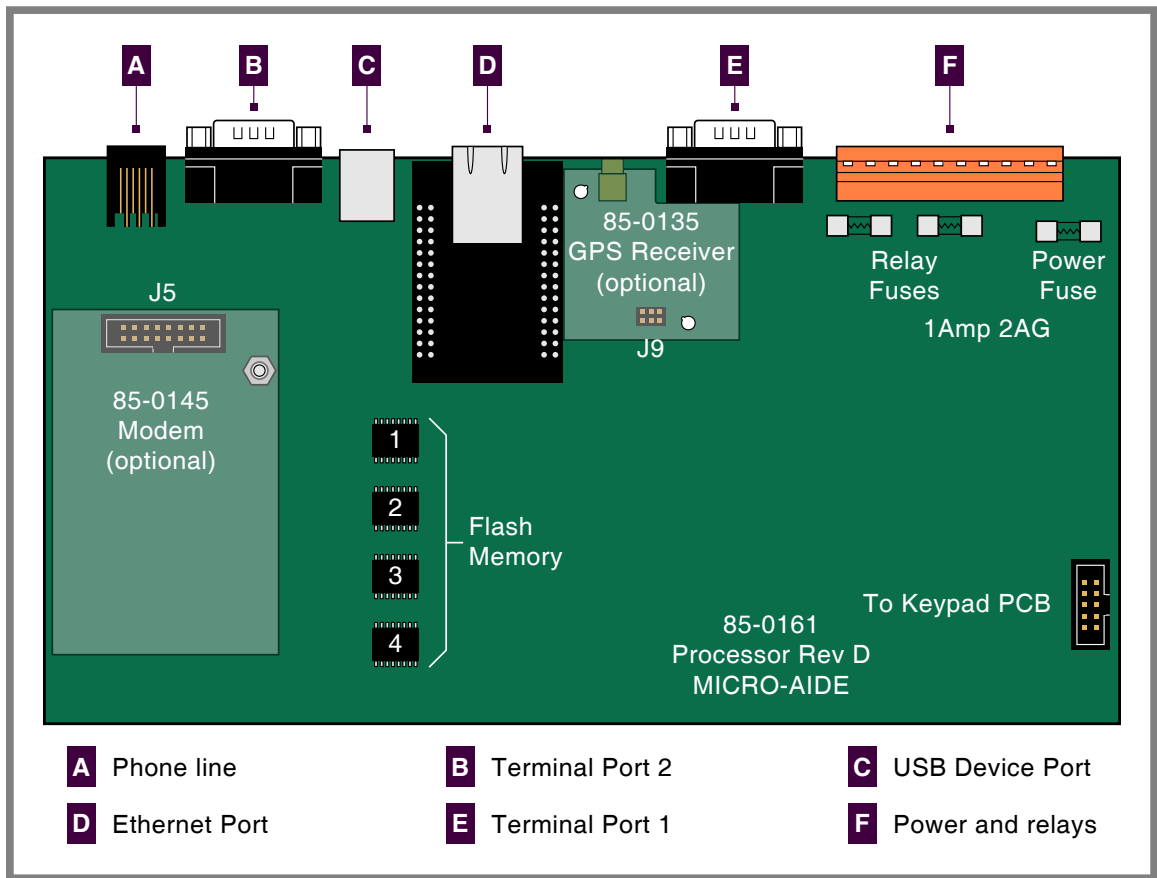

Figure 13: Processor PCB
There are three fuses mounted on the Processor PCB. The fuses are designed to protect the input power source and the contacts of the two output relays. Each are rated at 1 A and conform to the 2AG size standard. Before replacing a fuse the cause of the blown fuse should be ascertained and cleared if possible. The fuses are illustrated in Figure 13 on page 95.
Generally, the GPS Receiver is ordered at the time the Recording System is purchased and is pre-installed at the factory. If the receiver was not previously ordered, it can be installed by the user. To install the receiver follow the steps listed in the following. The GPS Receiver PCB is illustrated in Figure 13 on page 95.
3. Locate the 6-pin female socket labeled "J9" near the top-center edge of the Processor PCB. The socket is illustrated in Figure 13 on page 95.